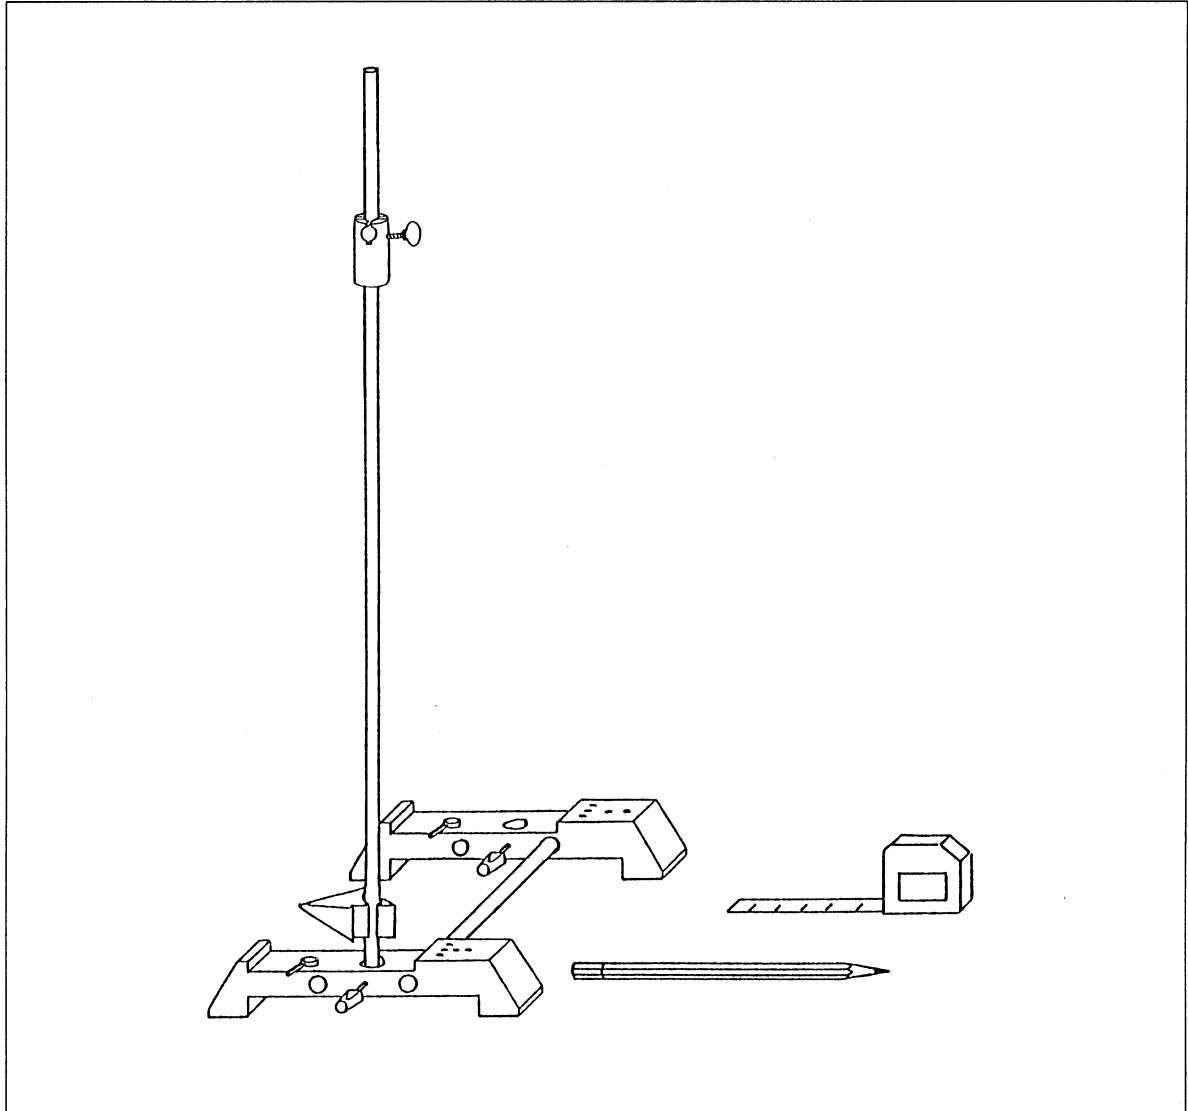

Fig. 1 Setup for energy conversion experiment
1. Assemble all the components of the stand as shown in fig. 1.